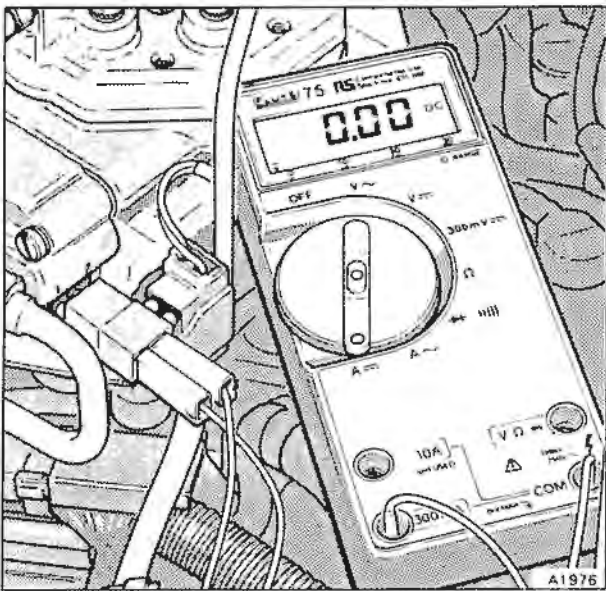

Fig. B3-23 Multimeter connected in 'series' with the EHA
Connect a digital multimeter (with a range of 0 to 150 milliamps) in series with the electro-hydraulic actuator using the adapter RH 9893 (see fig. B3-23). Whilst observing the multimeter, start the engine. The enrichment should initially peak at 150 mA for approximately 1.5 seconds and then progressively decay to 6 mA  $\pm$  0.5 mA when the engine has reached its normal running temperature [80°C (176°F) coolant temperature]
4. Leave the three-way electrical plug to the throttle position switch disconnected. Connect a digital multimeter in 'series' with the electro-hydraulic actuator using the adapter RH 9893 (see fig. B3-23). Set the meter to read milliamps.